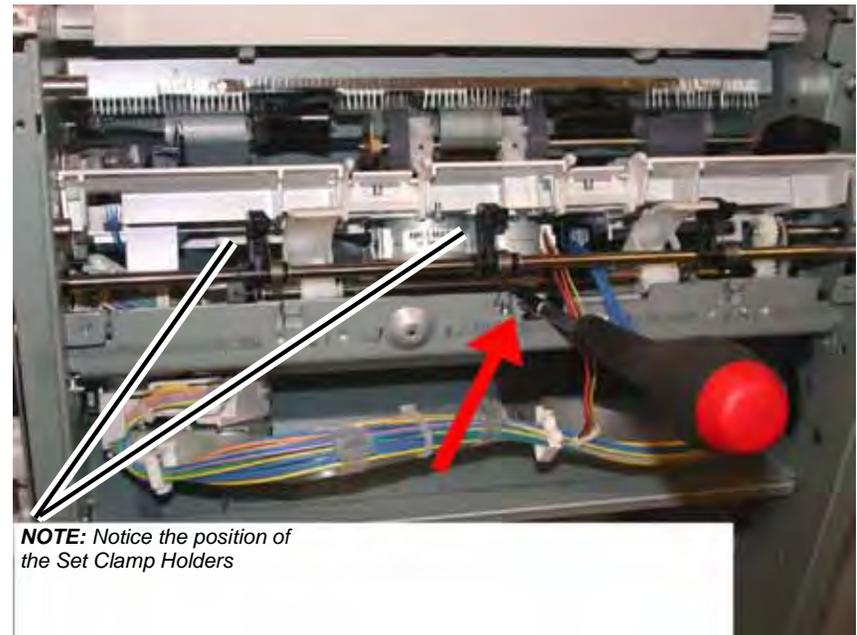

Figure 3 Removing the Compiler Tray screw
12. Remove the Compiler Tray screw (Figure 3).